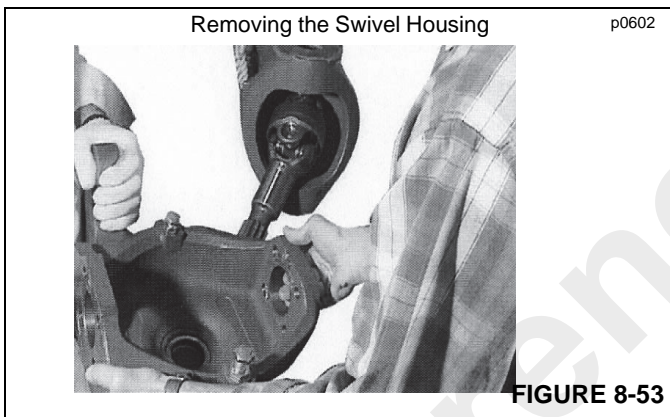

FIGURE 8-53
16. Remove the swivel housing from the axle beam and from the short axle shaft of the u-joint (Figure 8-53).